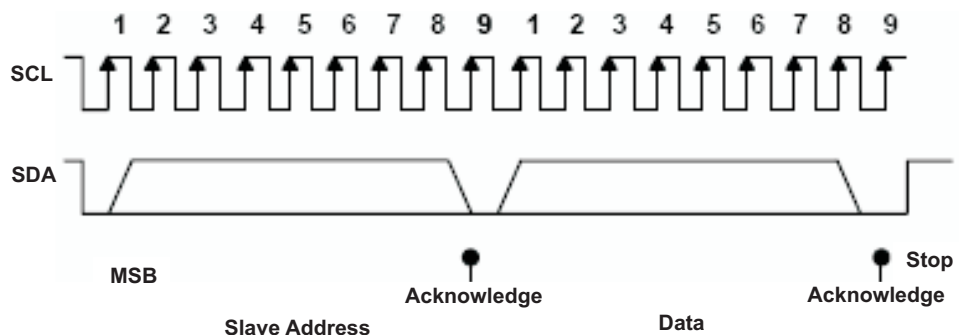

Figure 34. I2C Address and Data Cycles
- The master generates further SCL cycles to either *transmit* data to the slave (R/W bit 0) or *receive* data from the slave (R/W bit 1). In either case, the *receiver* needs to acknowledge the data sent by the *transmitter*. So an acknowledge signal can either be generated by the master or by the slave, depending on which one is the receiver. The 9-bit valid data sequences consisting of 8-bit data and 1-bit acknowledge can continue as long as necessary (see Figure 34).